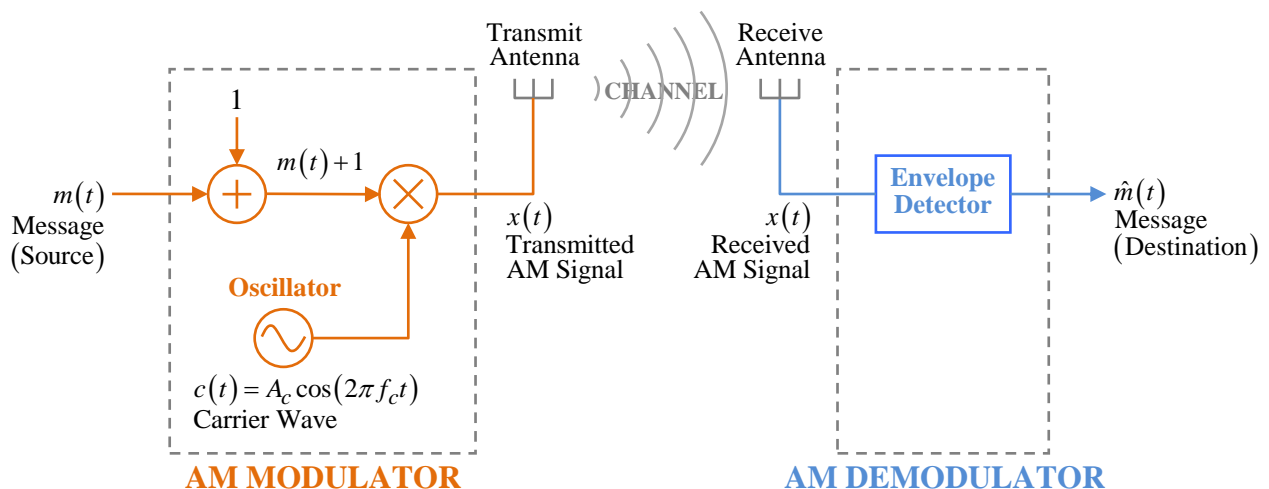

Figure 1: AM transmission system.
Suppose the carrier wave, $c(t)$, is the sinusoid $c(t) = A_c \sin(2\pi f_c t + \varphi)$. The carrier wave has 3 parameters, A_c , f_c and φ_c , which are, respectively, called the amplitude, frequency and phase of the sinusoid. The message signal, $m(t)$, can alter any of these 3 parameters to produce a corresponding modulated carrier signal for transmission. Consequently, there are at least 3 modulation schemes. This project focuses on **Amplitude Modulation** (AM) where $m(t)$ is used to alter the amplitude of $c(t)$. The block diagram of an AM transmission system is shown in Figure 1.
In the mini-project, your team will design and implement the AM modulator and AM demodulator blocks shown in Figure 1. Besides providing exposure to one of the popular modulation techniques, another objective of this exercise is to reinforce circuit design/implementation skills and confidence in using emerging portable electronic engineering instrument -- Analog Discovery 2 (AD 2).